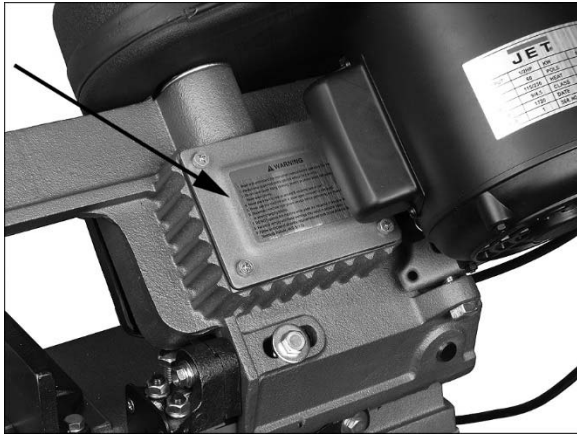

Figure 24
3. Remove four screws from gear box (Figure 24) and remove cover plate and gasket.